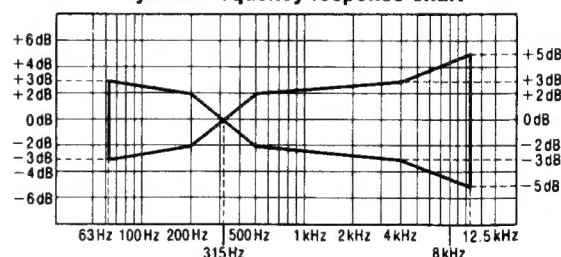

Fig.6
2. Assure that the frequency response is within the range shown in Fig. 6 for both L-CH and R-CH.